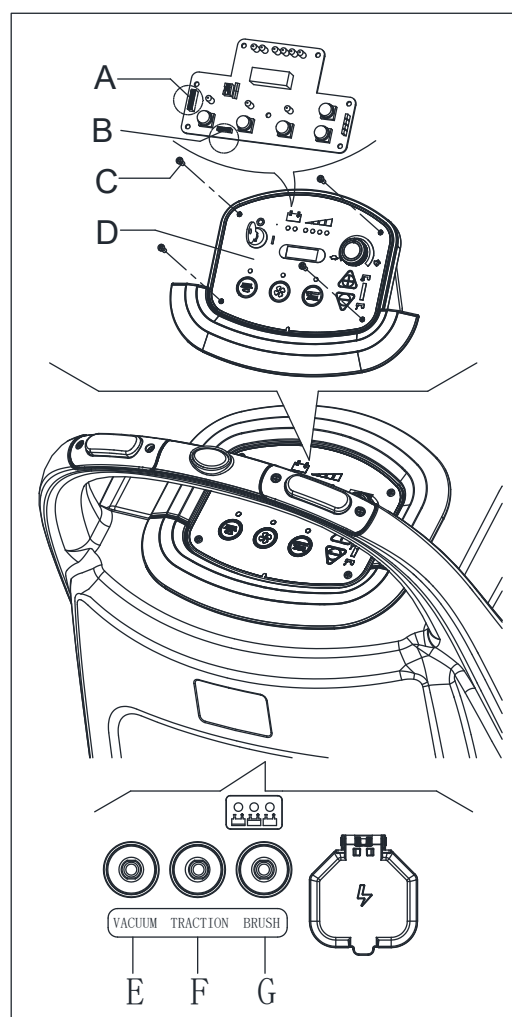

Figure 24
3. Remove the screws (C, Figure 24) on control panel (D), then turn over the PCB to find the fuse (A, B, Figure 24).